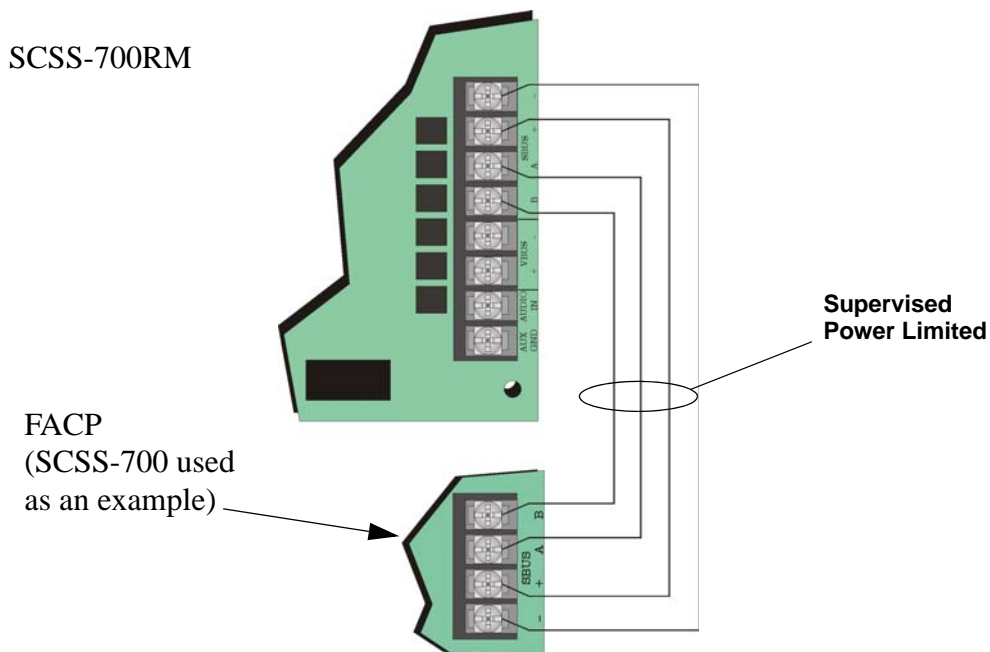

Figure 3-40 SBUS Connections
2. Disconnect the SBUS connections from the SBUS terminals on the SCSS-700RM. See Figure 3-40.